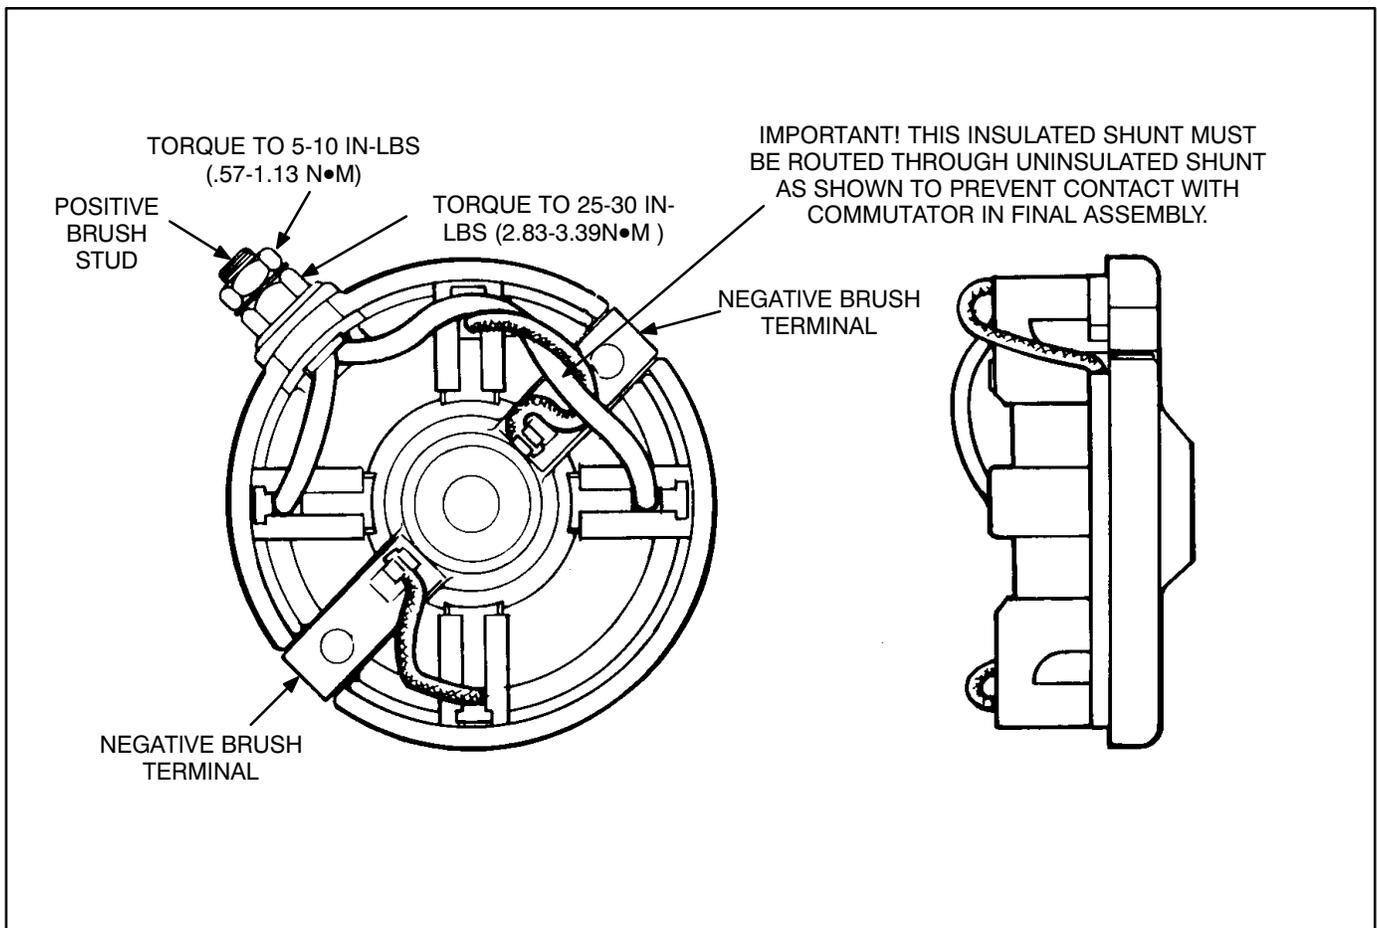

FIGURE 8-22. BRUSH ENDCAP
2. Push the negative brush terminals over the through-bolt holes on the brush endcap (Figure 8-22).